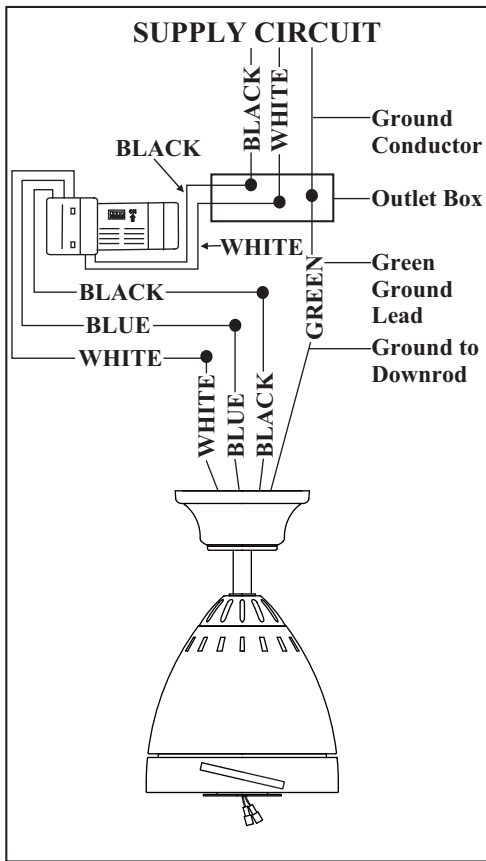

Figure 16
2. (Figure 16) Motor to receiver electrical connections: Connect the black wire from the fan to black wire marked "TO MOTOR L". Connect the white wire from the fan to the white wire marked "TO MOTOR N" from the receiver. Connect the blue wire from the fan to the blue wire marked "For Light" from the receiver. Secure the wire connections with the plastic wire connecting nuts provided.
3. (Figure 16) Receiver to house supply wires electrical connections: Connect the black (hot) wire from the ceiling to the black wire marked "AC in L" from the receiver. Connect the white (neutral) wire from the ceiling to the white wire marked "AC in N" from the receiver. Secure the wire connections with the plastic wire connecting nuts provided.
4. (Figure 16) If your outlet box has a ground wire (green or bare copper) connect it to the fan ground wires; otherwise connect the hanging bracket ground wire to the mounting bracket. Secure the wire connection with a plastic nut provided. After connecting the wires spread them apart so that the green and white wires are on one side of the outlet box and black and blue wires are on the other side. Carefully tuck the wire connections up into the outlet box.